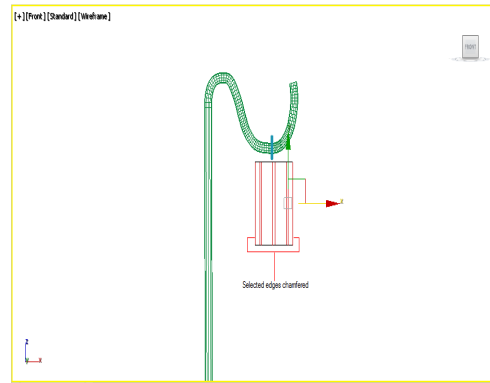

Figure 5-32 Selected edges chamfered
- In the **Selection** rollout, choose the **Ring** button; the ring of edges are selected. Next, in the **Edit Edges** rollout, choose the **Settings** button on the right of the **Chamfer** button; the **Chamfer** caddy control is displayed in the viewport. Set the value **0.03** in the **Chamfer-Amount** spinner and **1** in the **Segments** spinner and then choose the **OK** button to close the caddy control; the selected edges are chamfered, as shown in Figure 5-32.